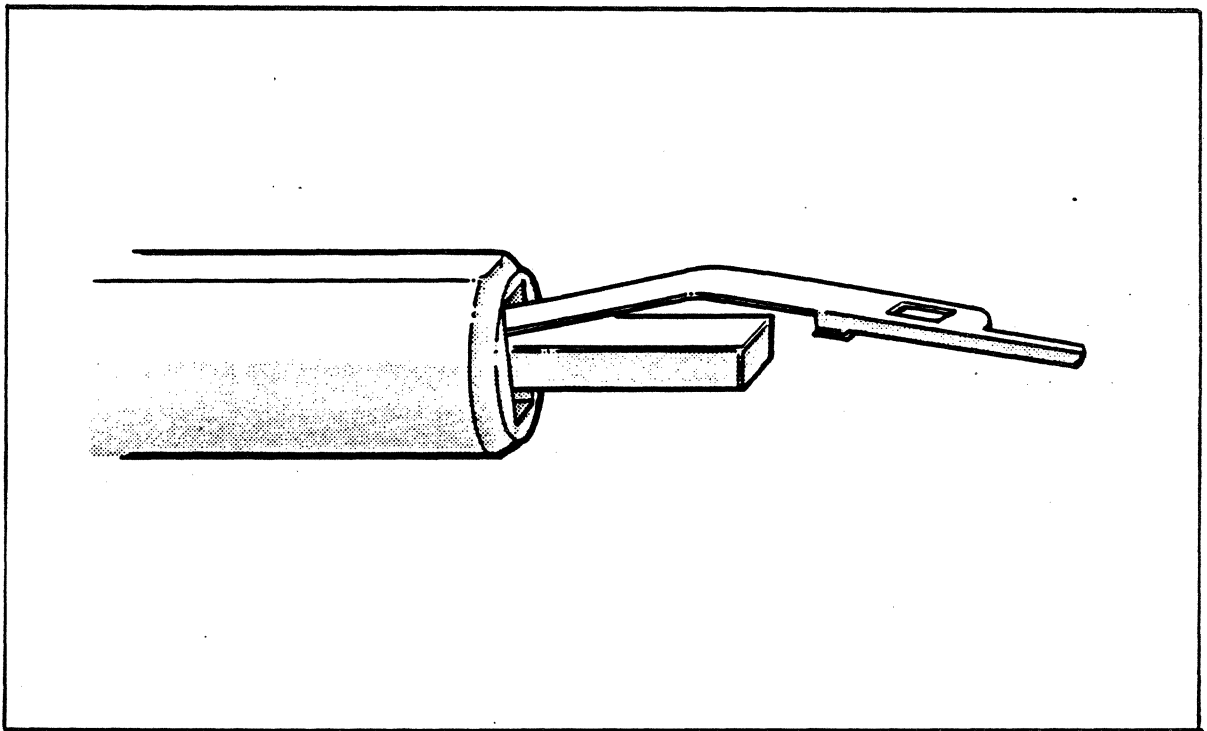
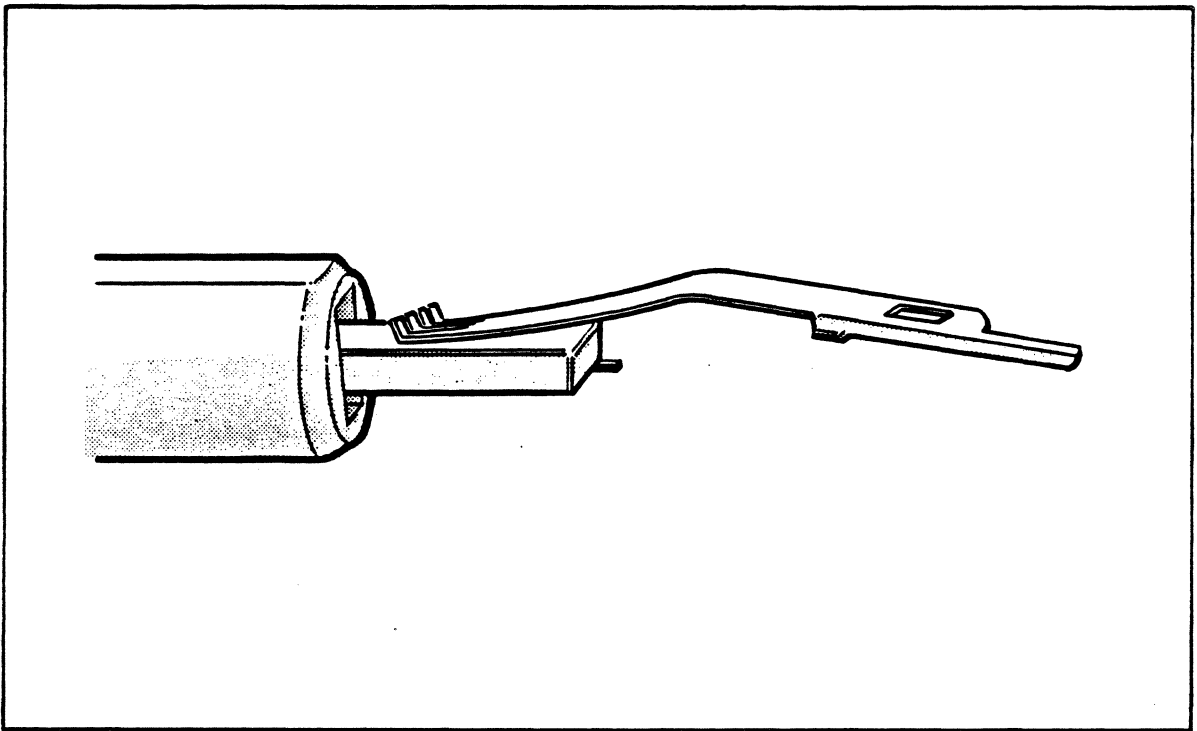

Figure 7-3. Placing the Solid Contact in the Insertion Tool
Figure 7-4. Inserting the Split Contact in the Insertion Tool
9. Insert the solid contact (P/N 373-30052-2) in the insertion tool with the bend to the outside and the solder end up (see Figure 7-3). Insert the split contact (P/N 373-30053-2) with the split end in first (see Figure 7-4).